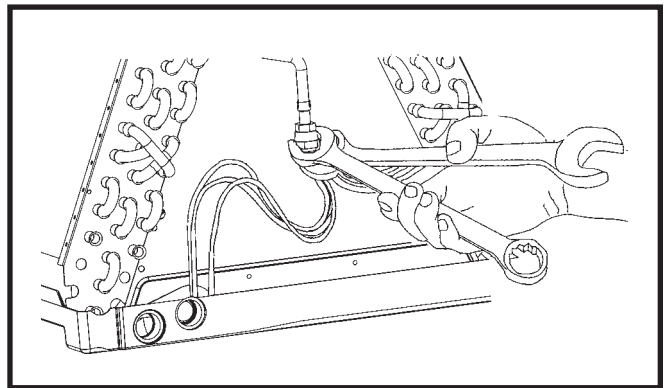

Figure 6. Loosening of Nut & Distributor Body
5. Using two wrenches, loosen the nut and distributor body as shown in Figure 6. Turn the assembly nut counter-clockwise until the orifice body halves are separated.
The motor control board (Figure 6 \(page 8\)) has a **DHUM** connection that allows the system to increase the amount of humidity that is removed from the circulating air. This is accomplished by reducing the CFM and allowing the cooling coil to become colder. This will only occur when there is a call for cooling. There are many ways that this can be electrically wired.